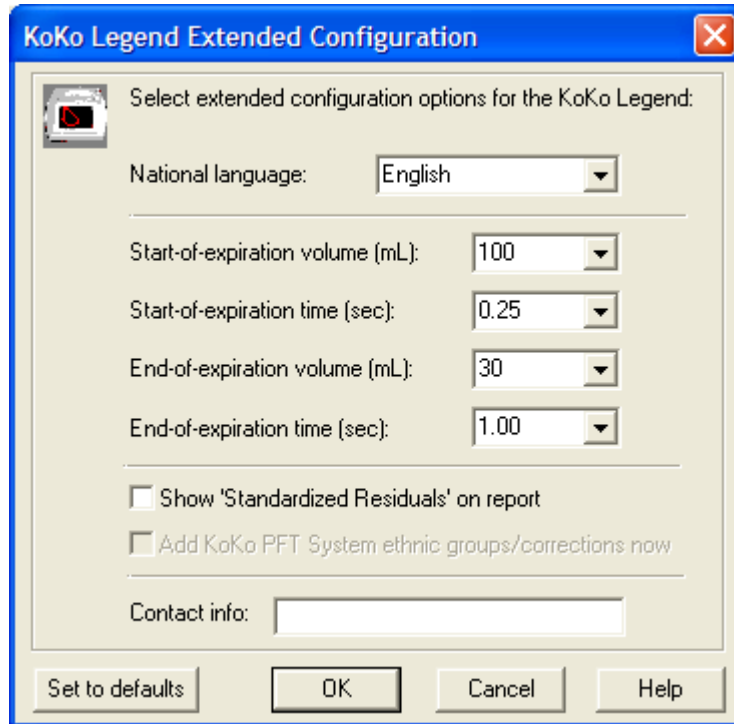

Figure 42 – Extended Configuration Options
For complete instructions on loading the KoKo Legend USB driver and operating the Configurator program, refer to the Help system on the Configurator or KoKoPFT disk. To install the Configurator program, insert the CD into the computer's CD drive and wait for the auto-installation to complete. Figure 42 shows which features can be edited using the Configurator program. This software will also be available for download from www.ferrarisrespiratory.com.
- a. Select the **Edit** button to access additional configuration items. The extended configuration screen is displayed (see Figure 42). Set the parameters as desired. Select the **OK** button.